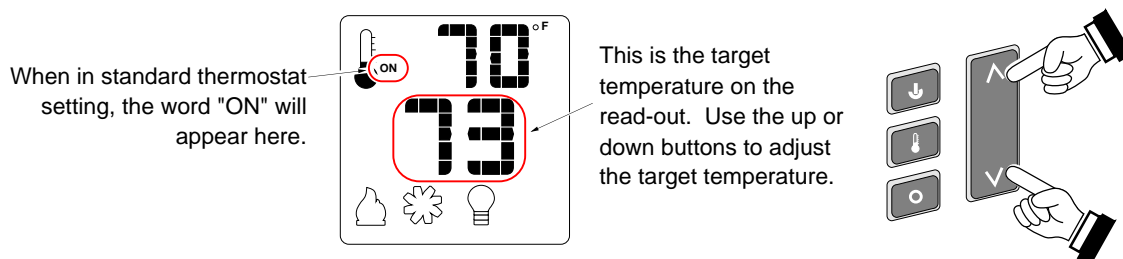

Figure 9
- **STANDARD THERMOSTAT** - While in Standard Thermostat mode, the transmitter will turn the burner on and off to achieve the target temperature (see Figure 9 below). To adjust the target temperature, press the up and down buttons until a suitable temperature is achieved.